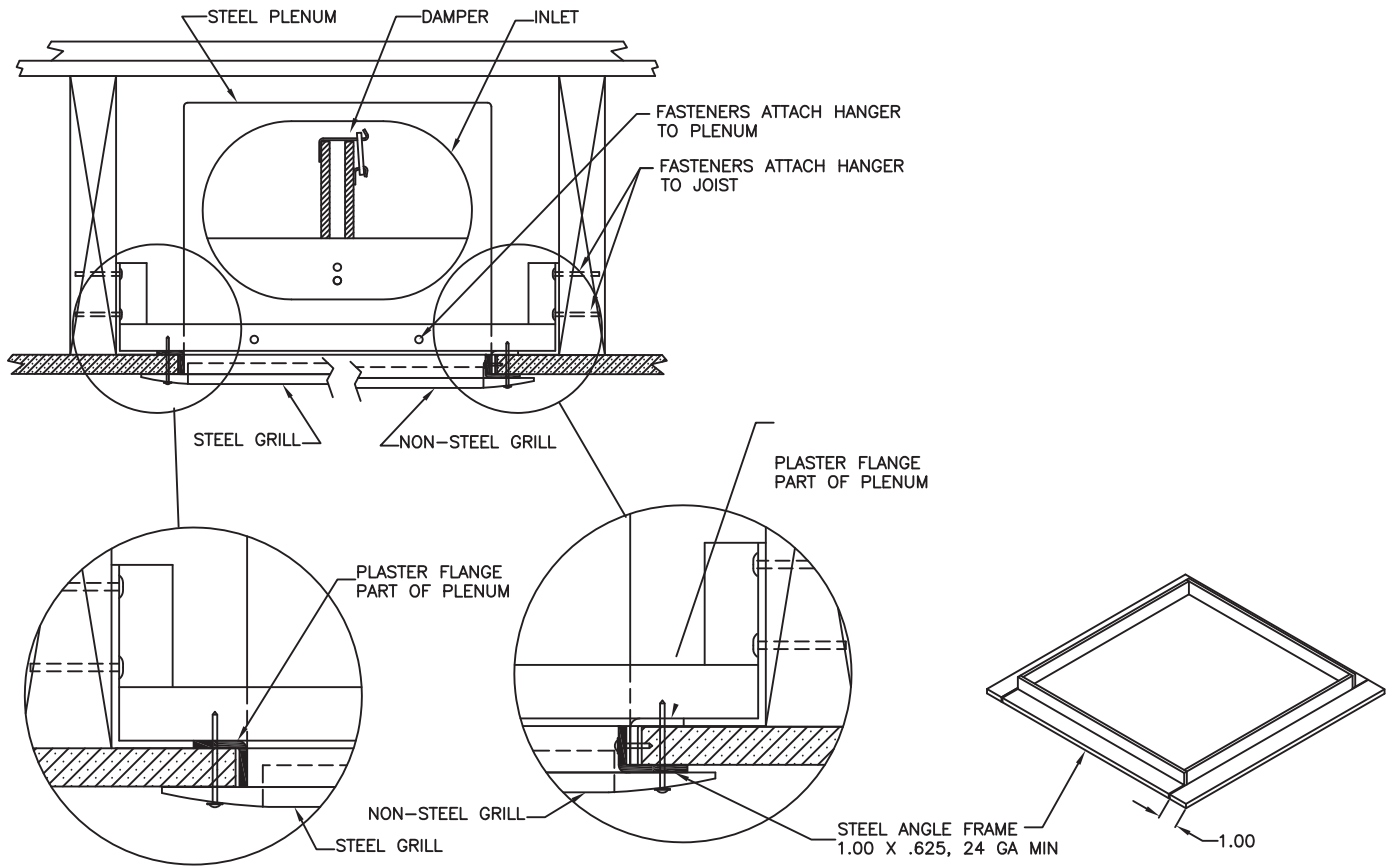

Figure 4
- 2) Insert the damper assembly, with attached mounting angles, between ceiling joists and attach to joists using minimum 2 - #8 x 3/4 in. (19mm) nails per side - see **Figure 4 & 5**.